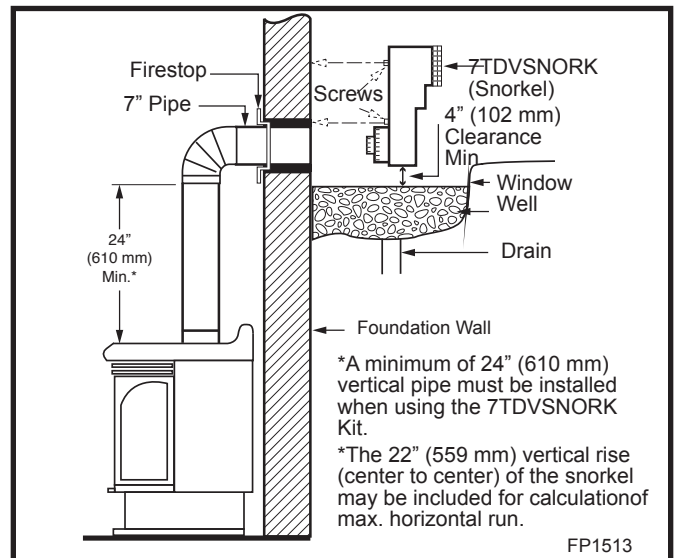

Fig. 20 Below grade installation.
2. Remove soil to a depth of approximately 16" (406 mm) below base of snorkel. Install drain pipe. Install window well (not supplied). Refill hole with 12" (305 mm) of coarse gravel leaving a clearance of approximately 4" (102 mm) below snorkel. (Fig. 20)
7. Level the soil to maintain a 4" (102 mm) clearance below snorkel. (Fig. 20)